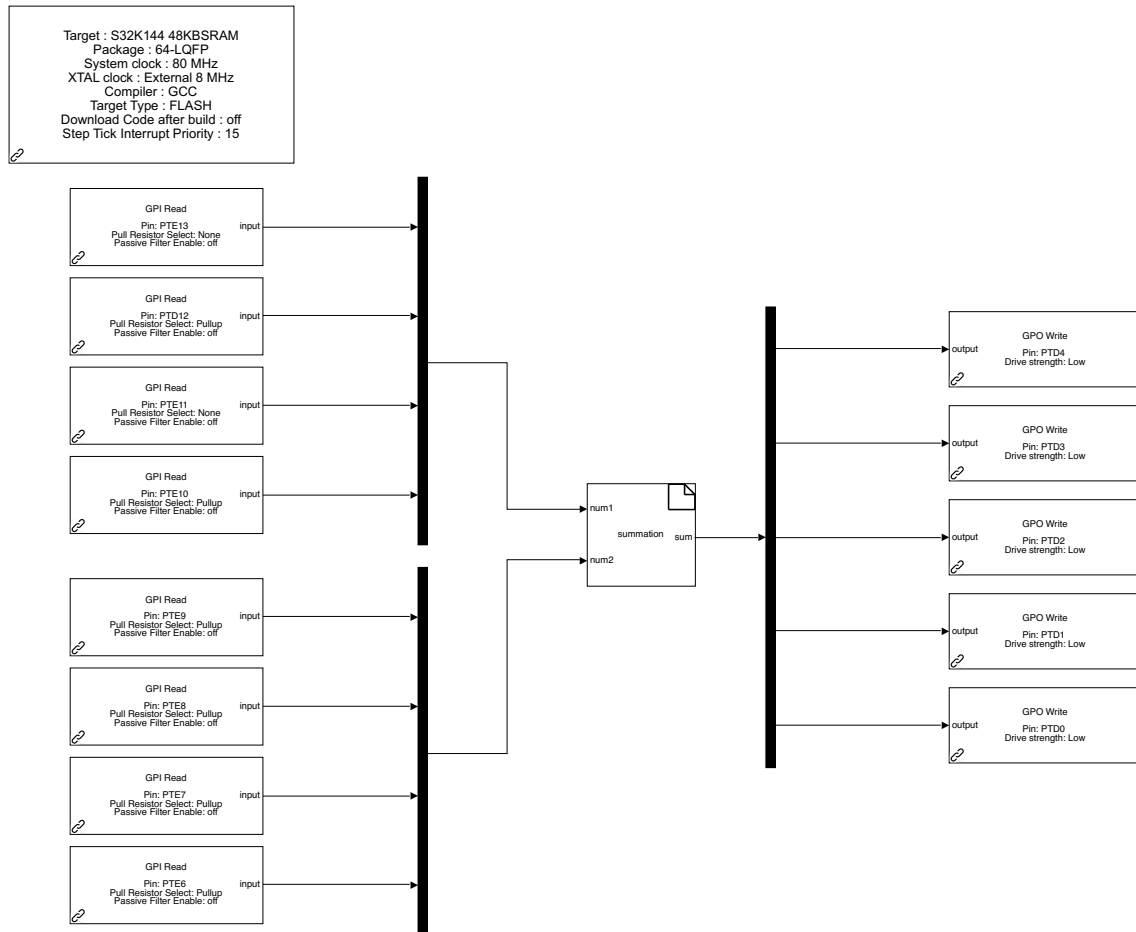

Figure 9
11. Incorporate the NXP Model Based Design blocks provided on the lab computers in your model. First, add the MBD_S32K14x_Config_Information Block to your model. Next, replace all of the Constant Blocks with Digital_Input Blocks. Replace all the Display Blocks with digital_Output Blocks. Select the appropriate pin for each block by double clicking on each block. See Figure 9 for reference. You can find the blocks in the Simulink Library Browser: